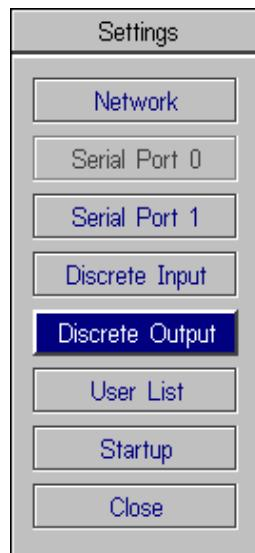

Figure C-12: Settings Menu
4. Select Settings to open the Settings menu (Figure C-12).